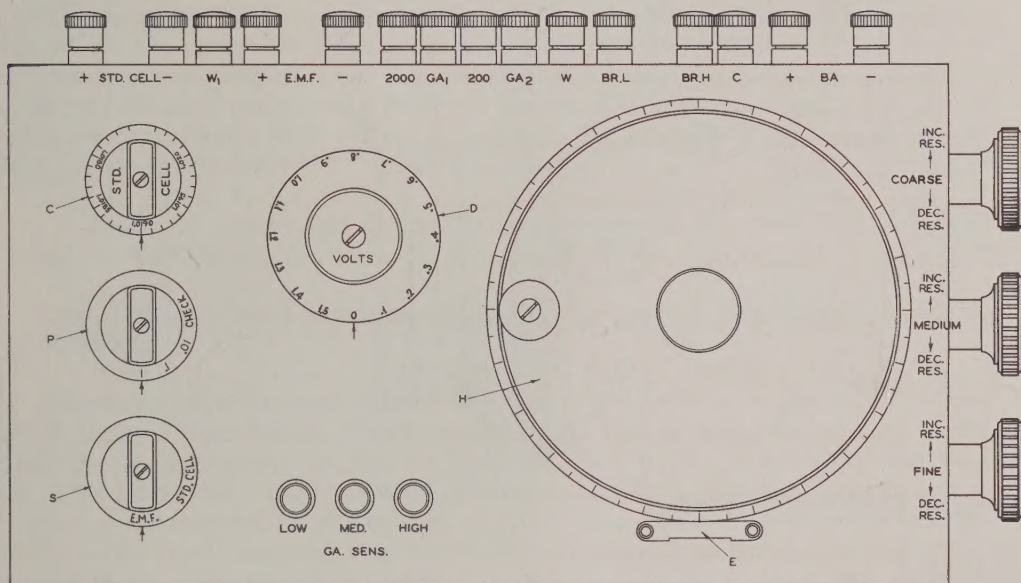
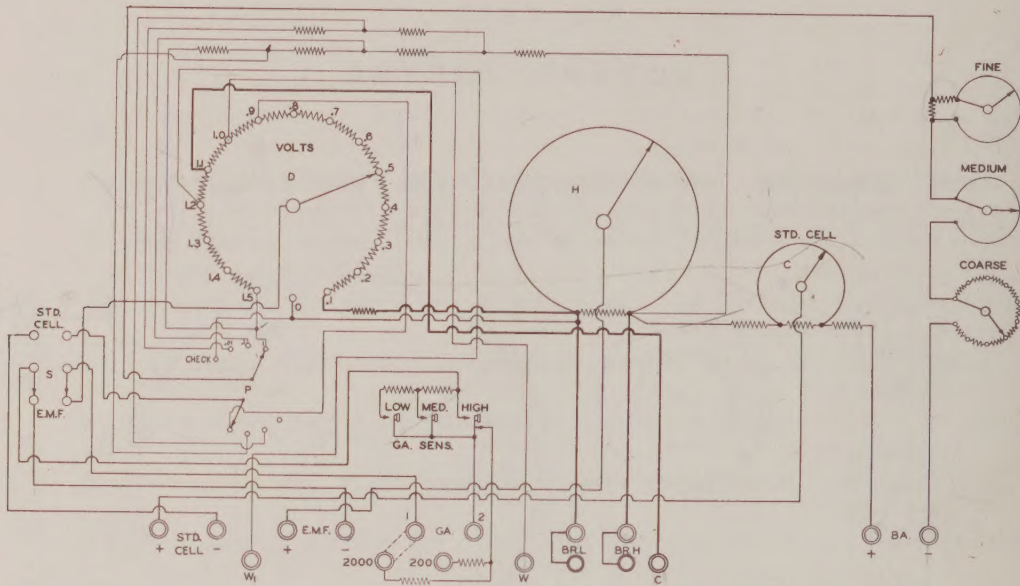

Fig. 1
Fig. 2
The internal wiring connections are shown schematically in Fig. 2. Similar designations in Figs. 1 and 2 refer to the same parts.
3. ADJUSTMENT OF CURRENT IN POTENTIOMETER CIRCUIT (Fig. 1)
4. READING SWITCHES AND SLIDEWIRE (Fig. 1)
6. TO MEASURE EMF UP TO 1.6 VOLTS (Fig. 1)
7. TO MEASURE EMF UP TO 0.16 VOLT (Fig. 1)
8. TO MEASURE EMF UP TO 0.016 VOLT (Fig. 1)